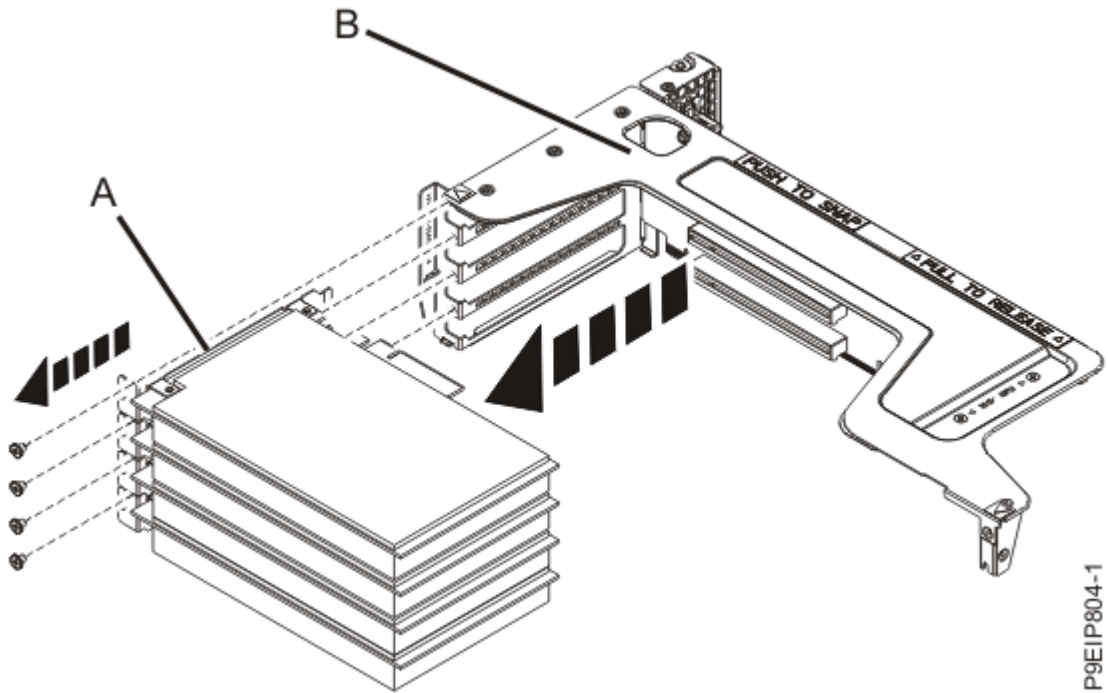

Figure 22. Removing an adapter from the riser
- f) Unplug an adapter **(A)** from the PCIe adapter riser **(B)** as shown in Figure 22 on page 26.